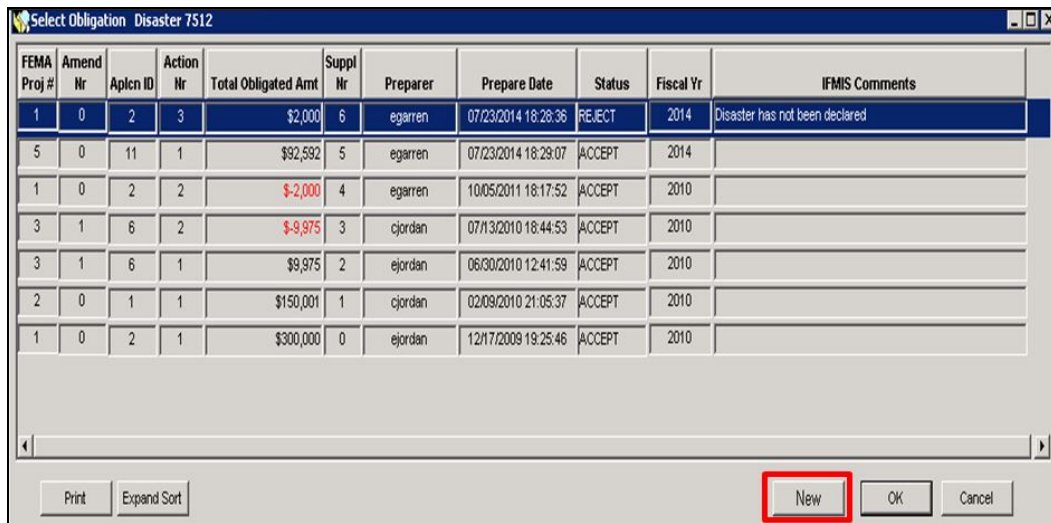

Figure 10-39: Mitigation > Funding > Obligations > NEW
1. On the MITIGATION menu, click Funding > Obligations > New (Figure 10-39).